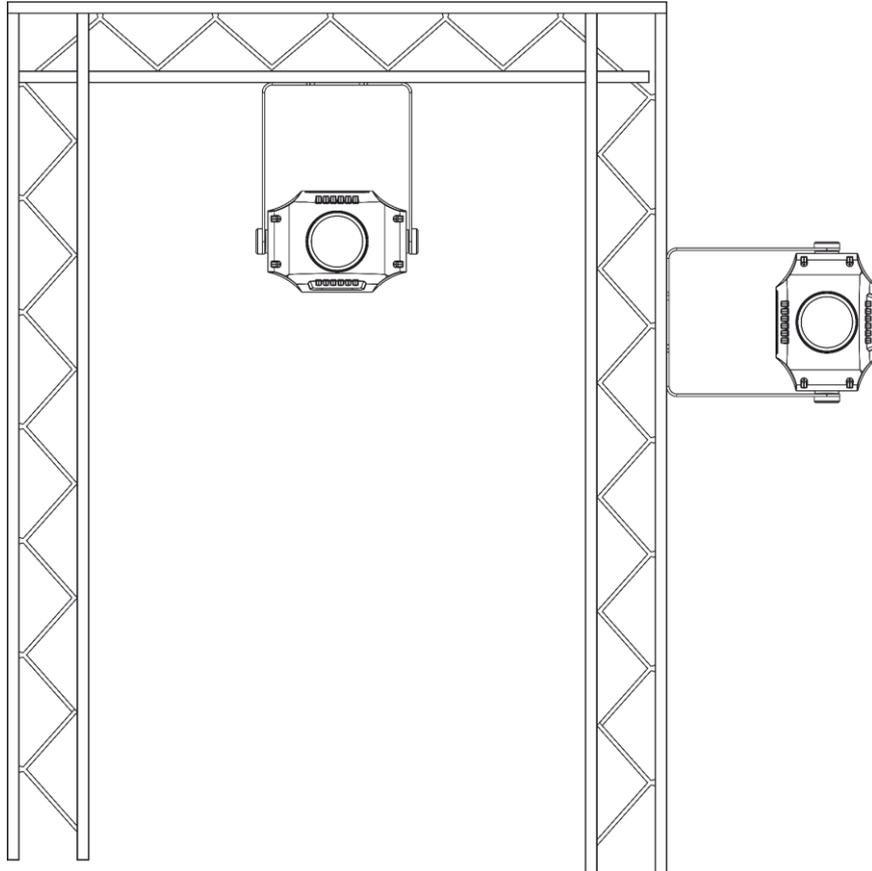

Fig. 06
- 02) Use a clamp to attach the device to the supporting structure, as shown in Fig. 06. Make sure that the device cannot move freely.